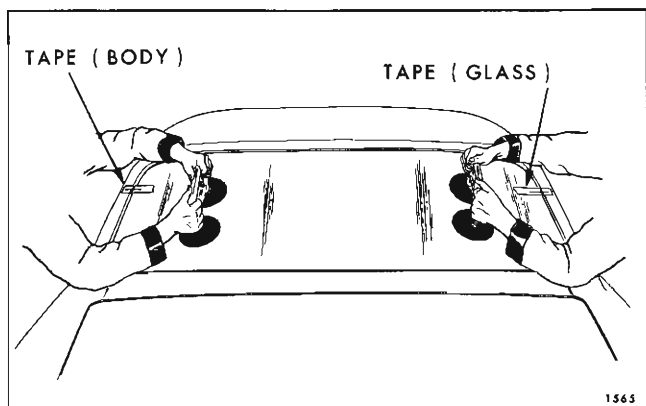

Fig. 2F6—Back Window Installation
18. With the aid of a helper, carefully install glass in body opening. Make certain that glass sets properly on spacers and does not have to be shifted after material contacts pinchweld flange. Align tape on glass with tape on body to guide window into opening. (See Fig. 2F6).